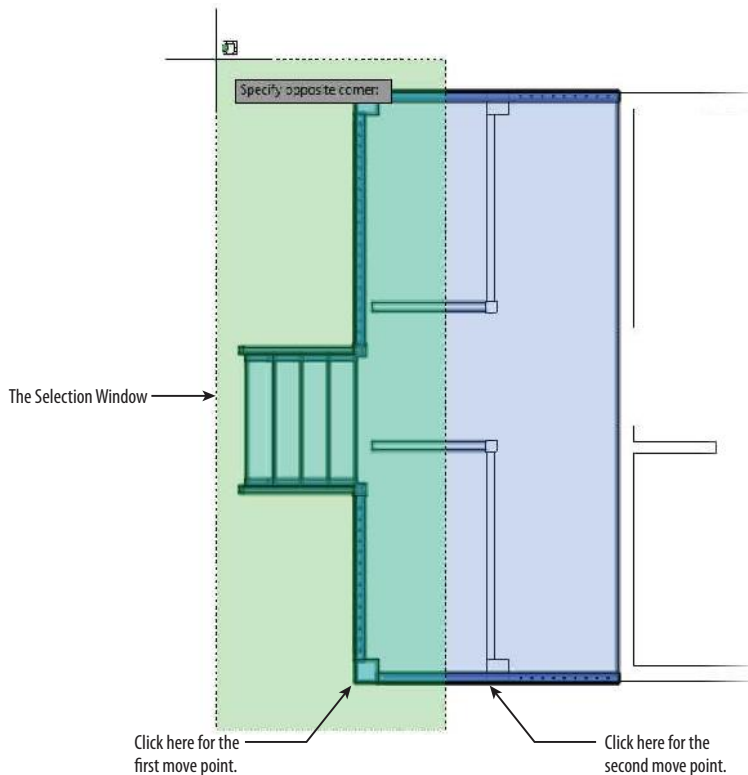

FIGURE 16.68: Moving the deck to make it narrower
13. Click the Move tool from the Home tab > Modify panel, and drag a crossing window—dragging from right to left around the front of the deck and the stairs, as shown in Figure 16.68.